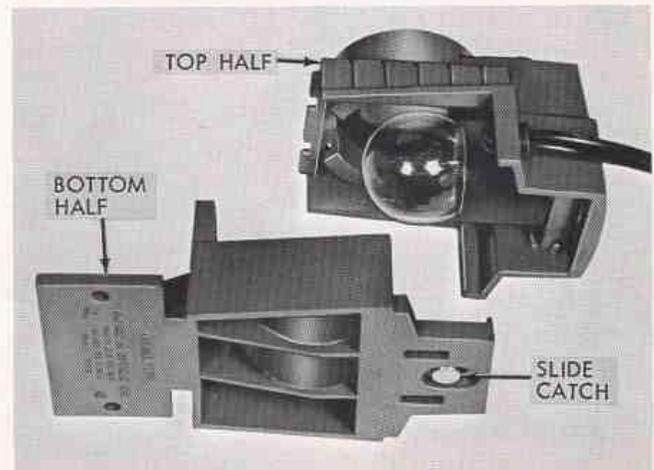

Figure 24. Changing Lamp in "On-Base" Illuminator
- c. Changing Lamp. To change lamp in Cat. No. 1034 or No. 1037 illuminators, refer to figure 24. The top half of the illuminator is removable from the lower half by unlocking the slide catch on the under side of the illuminator. Tilt the microscope on its side for ready access. When